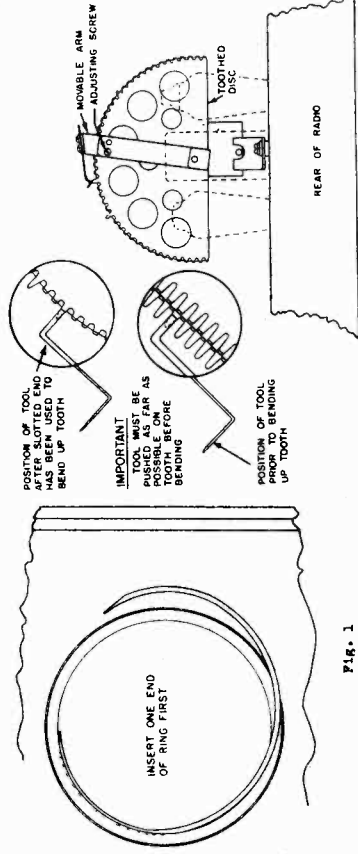

Fig. 2
4. Leaving your station tuned in, go to the rear of the radio. You will see a semi-circular toothed disc, as illustrated in Fig. 2. There is also a flat spring arm with a small rounded projection near its end, that moves over the teeth of this semi-circular disc as the Station Selector knob is turned. Still leaving your station tuned in, carefully note which tooth on the semi-circular disc is directly under the rounded projection of the spring arm. Mark this tooth with a pencil. Note that there is a double row of teeth and either the tooth that faces you or the tooth that faces the front of the radio may be bent up, depending upon which one is nearer the rounded projection of the spring arm. After you have marked the tooth, turn off the radio. Then tune away from the station (with the Station Selector knob, turn the movable arm), and bend this marked tooth straight up, using the slotted end of the screw-driver. See Fig. 2. It is important that the slot of the tool fit as far down the tooth as possible. See before bending this tooth that this is properly done, the projection of the bent up tooth will touch the toothed disc. This is necessary so that the complete tooth will be bent up instead of just "part" of the tooth. When this is properly done, the projection of the bent up tooth will touch the toothed disc when the toothed disc is rotated by turning the Station Selector knob.